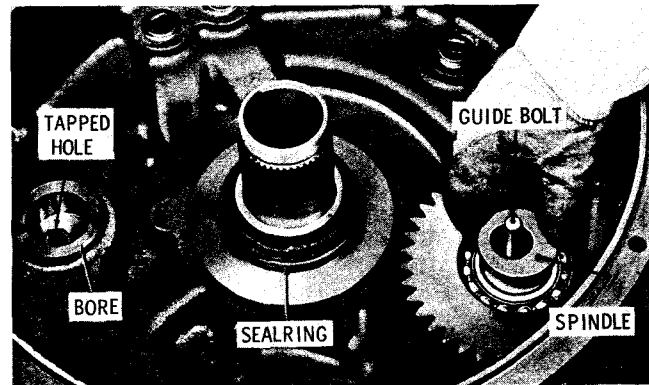

Fig. 7-61. Installing oil pump idler gear spindle S1706
(7) Install two hook-type sealrings onto the converter ground sleeve (fig. 7-61). (On later models, one teflon sealring is required.) Install a headless, 1/2-13 guide bolt into the tapped hole at the bottom of the spindle bore. Using gloves, install the spindle, which has been chilled in dry ice. Secure the spindle with a 1/2-13 x 2 1/2-inch bolt and lockwasher. Note power takeoff (PTO) spindle bore and tapped hole. Install the power takeoff idler gear and spindle (if used) in the same manner. Tighten the bolt(s) to 67 to 80 pound feet torque.